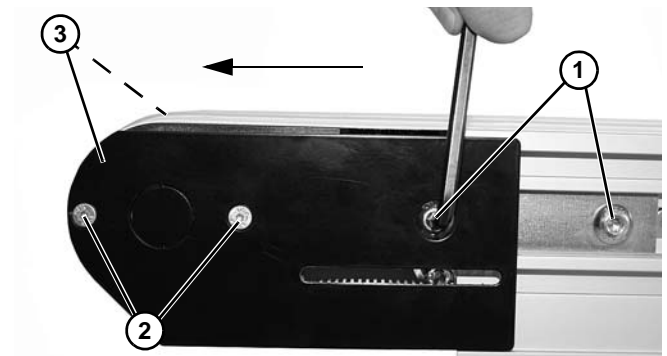

Figure 73
1. Remove idler tail from conveyor frame by loosening bolts (Figure 73, item 1) on both sides of conveyor.
2. With tail assembly on an open work surface, remove flat head screws (Figure 73, item 2) from both sides of tail assembly to remove side plate (Figure 73, item 3).